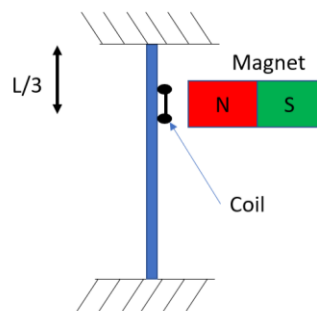

Figure Q3b
- The speaker is designed to operate over a frequency range of 100-5000Hz. Because of space constraints in the housing a design engineer suggests that it would be beneficial to move the magnet and coil off-centre, as indicated in Figure Q3b. Comment on the effect of this design change on the vibration response of the beam. [2%]